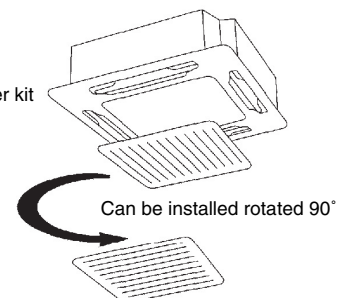

Fig. 3-27
- With this ceiling panel, the directions of the air-intake grille lattices when installing multiple units, and the position of the label showing the company name on the corner panel, can be changed according to customer requests, as shown in the figure below. However, the optional wireless receiver kit can only be installed at the refrigerant-tubing corner of the ceiling unit. (Fig. 3-27)